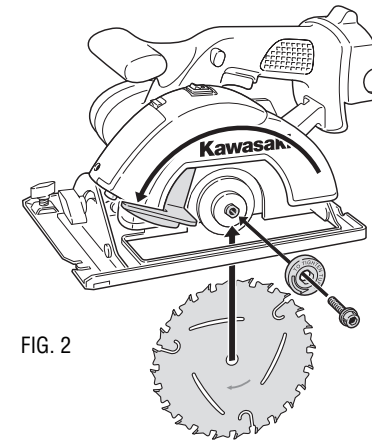

FIG. 2
- Slip the blade into place (see Fig. 2).